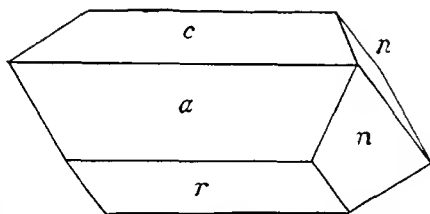

Figure 229. Epidote, a Common Form of Crystal
*Hardness*: 6 to 7. *Specific gravity*: 3.2 to 3.5. *Monoclinic*; figure 229 shows a common form.